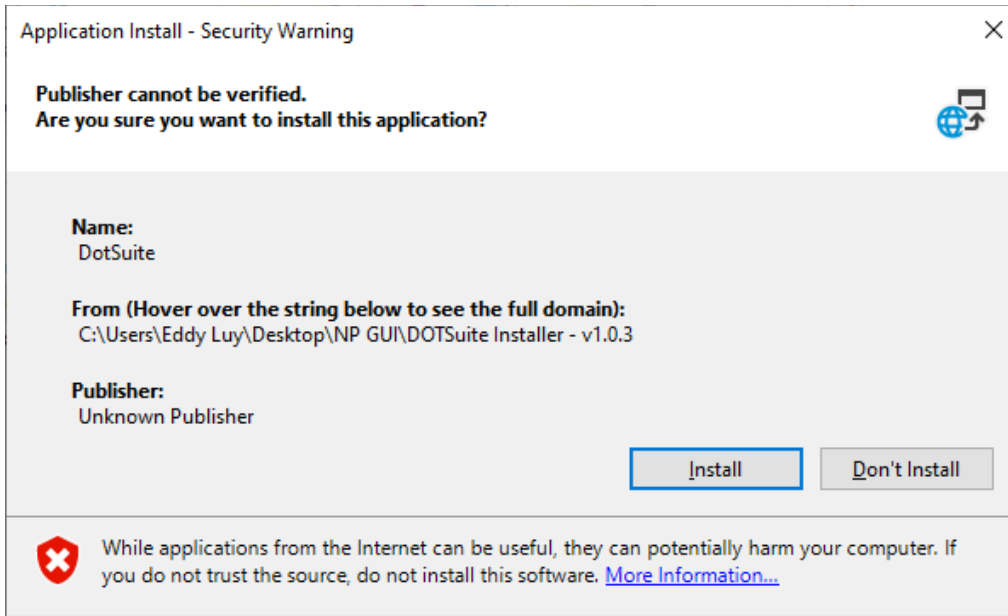

Figure 2: Application Install security warning prompt. Click “Install” to proceed.
- A security warning will appear asking for confirmation to proceed with the installation. Click “Install” – Figure 2.